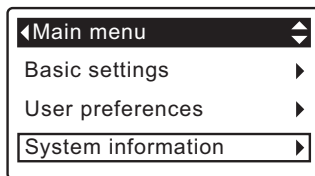

FIG. 55
1. From any of the rolling status screens, press the SELECT (O) button to display the **Main menu**.
2. Press the DOWN (▼) button to scroll through the menu options until **System information** is highlighted (See Figure 55).